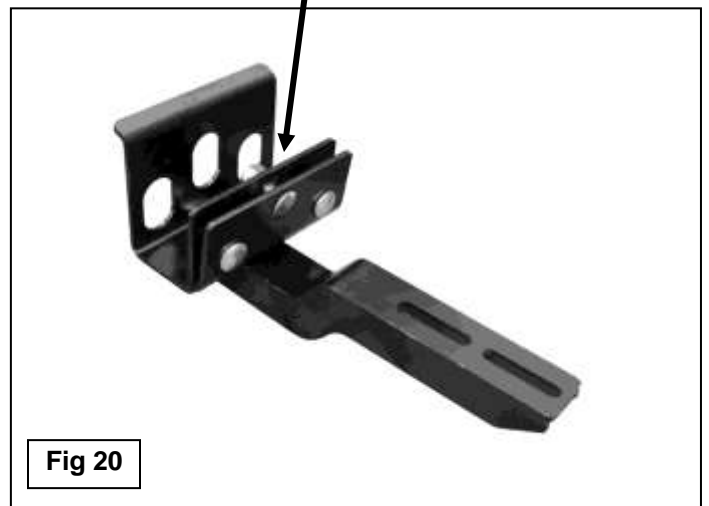

Fig 20
17. Reinstall the center Bracket assembly, **(Figures 20 & 21)**. Line up the outer Clamp Plate with the drilled hole. Pull the plastic cover back a little, **(Figure 21)**, and insert (1) 8mm Carriage Bolt through the center hole in the Outer Clamp Plate, the drilled hole and into the Bracket. **IMPORTANT:** Release the factory plastic clips in the bottom of the plastic rocker cover for easier installation of the 8mm Carriage Bolt, **(Figure 21)**. Secure the Bracket to the center bolt with (1) 8mm Flat Washer and (1) 8mm Nylon Lock Nut, **(Figures 22 & 23)**.